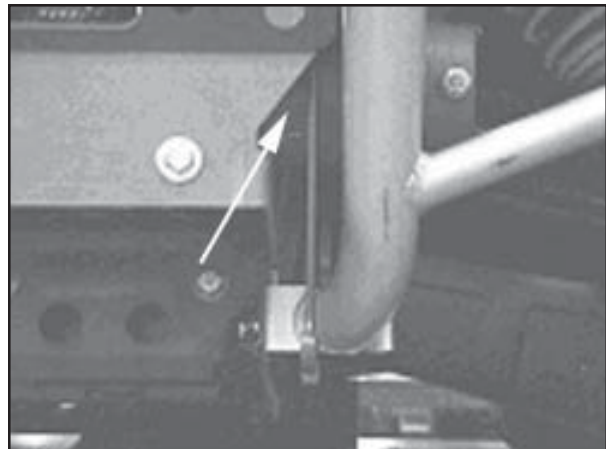

Figure 8
7. There may be some problems trying to tighten up the “right” (looking at the front of ATV) bracket bolt. You can get a wrench positioned as shown in , **Figure 8** and **Figure 9**.